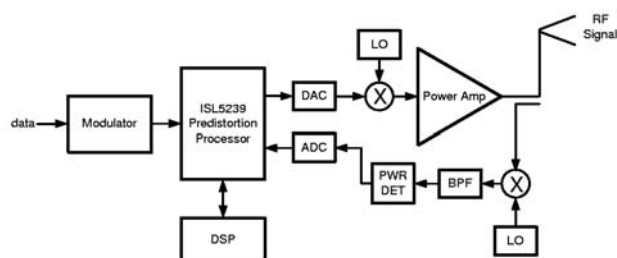

FIGURE 1. SYSTEM OVERVIEW
The ISL5239 is a full-featured digital pre-distortion part featuring a high-performance lookup-table based pre-distortion (PD) processing unit. It includes an interpolator for upsampling and supports all varieties of upconversion architectures with a programmable correction filter for equalization including both  $\sin(x)/x$  correction and removal of frequency response imbalance between quadrature paths. It also features gain, phase, and offset compensation for direct upconversion, digital IF output for heterodyning, and input/output capture memories with internal/external triggering capabilities to facilitate closed-loop feedback processing. System implementation is typically as shown in Figure 1. Although the power detect feedback is shown with one Analog to Digital Converter (ADC), coherently demodulated feedback signals configurations with 1 or 2 ADC's are also supported.